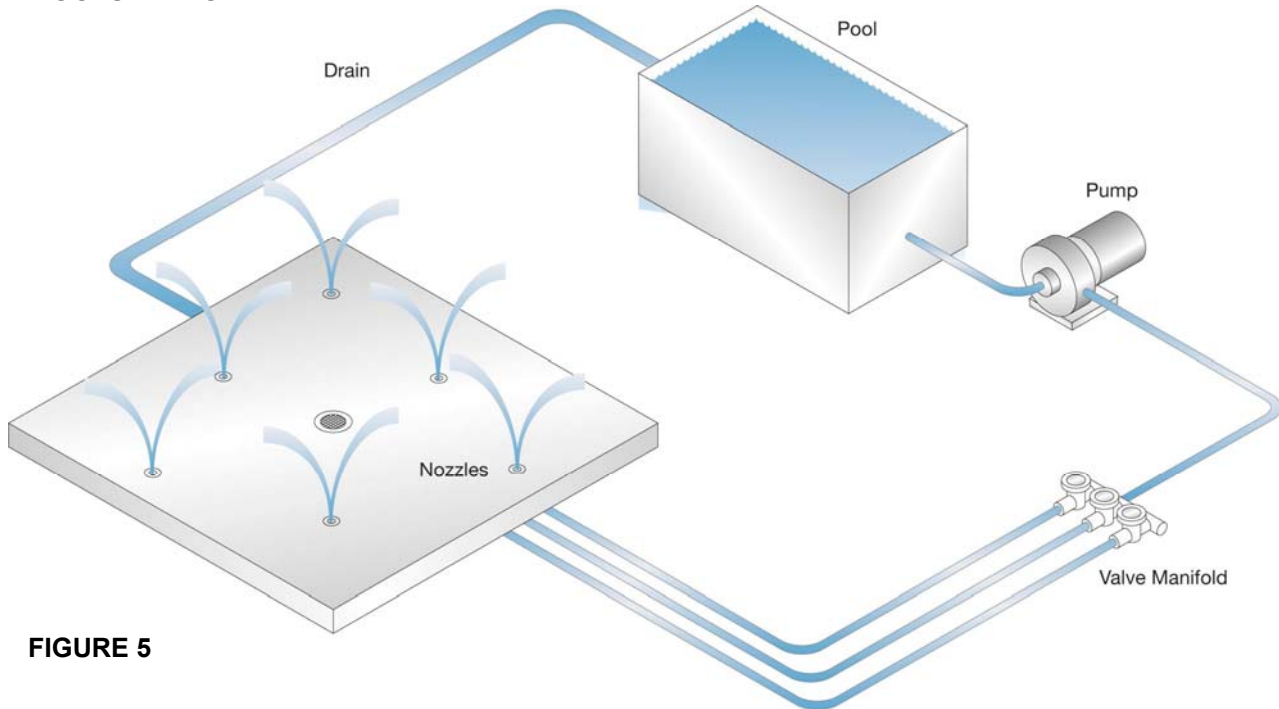

FIGURE 5
1. The proper layout for the WetDek poolside plumbing is located in **FIGURE 5**.
2. The poolside version of the WetDek should run off of an independent pump from the rest of the pool. This independent pool pump will need to provide the following gallons per minute (GPM): a six nozzle model will require 18 GPM minimum, a nine nozzle model will require 27 GPM minimum, and a twelve nozzle model will require 36 GPM minimum. This pump should be powered through the WetDek AquaDirector Controller (1) in the same manner as the Stand Alone version.